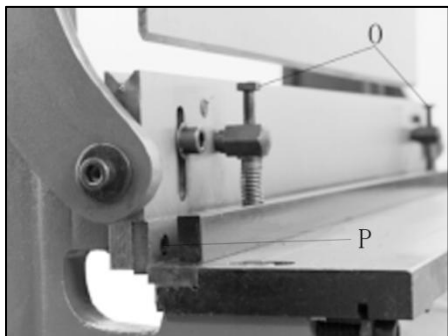

Figure 10
1. Remove hold-down by loosening screws (O, Figure 10), using 10mm hex key.
3. Remove 4 screws (P, Figure 10) and carefully remove blade.
4. Rotate or replace blade and re-install screws (P).
5. Re install hold-down. When blade is in highest position, the gap between the hold-down and the table should be within 1/4. Adjust to this position by turning the two screws (O, Figure 10) as needed. When the blade starts its downward travel, the hold-down should immediately hold workpiece in place.